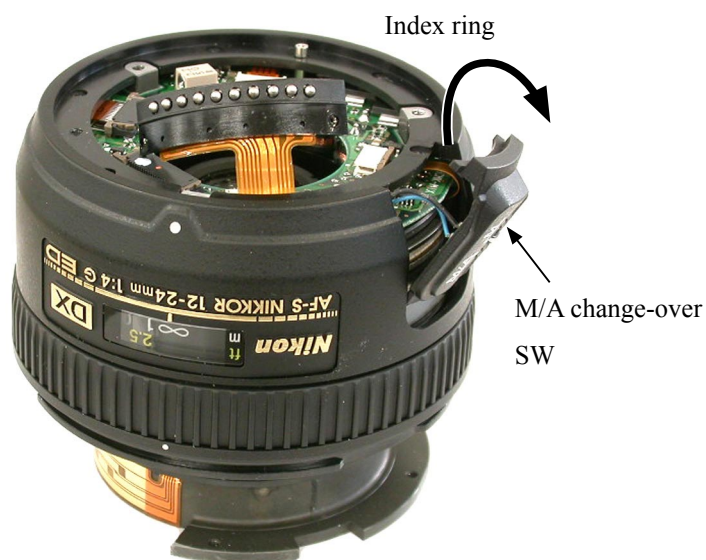

Fig. 1.
- Detach the M/A change-over SW from the index ring by sliding it as shown in Fig. 1.